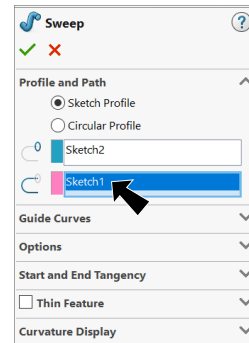

Fig. 14
- under Profile and Path, **Fig. 14**